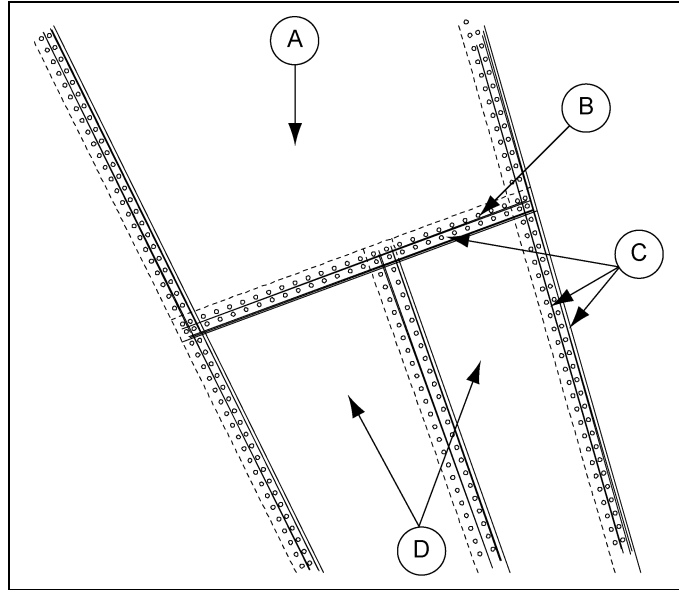

Figure 7H Caulking Detail
The 36' hopper bottom has three (3) sections. Apply caulk to all hopper section seams as shown in Figure 7H on Page 28.